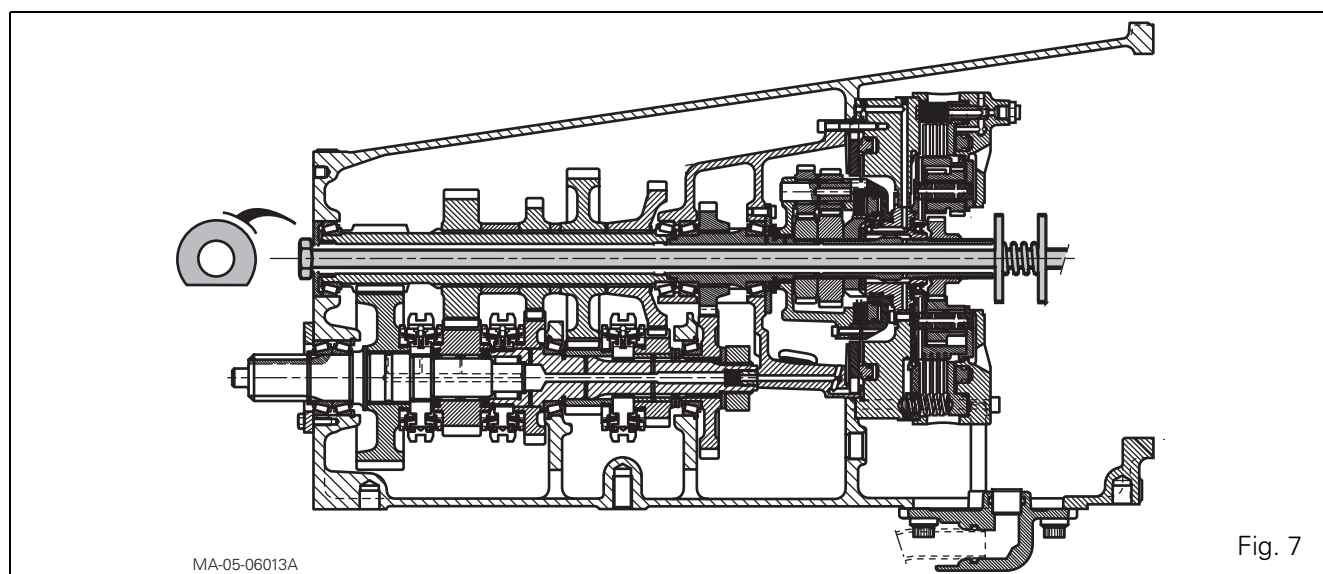

Fig. 7
36. Fit the makeshift tool (Fig. 7 and § I) in the shaft.